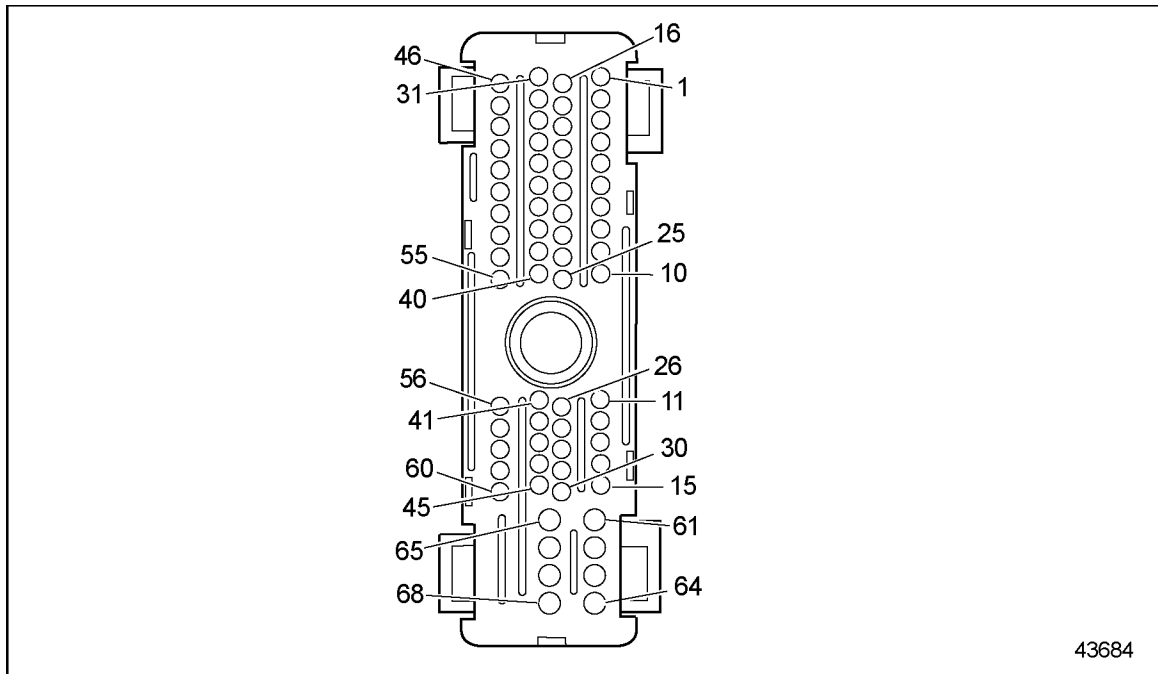

Figure 27-6 ECM/ECU Vehicle Harness Connector
4. Measure resistance between socket V-13 on the vehicle harness connector and socket V-61 and V-65. See Figure 27-6.